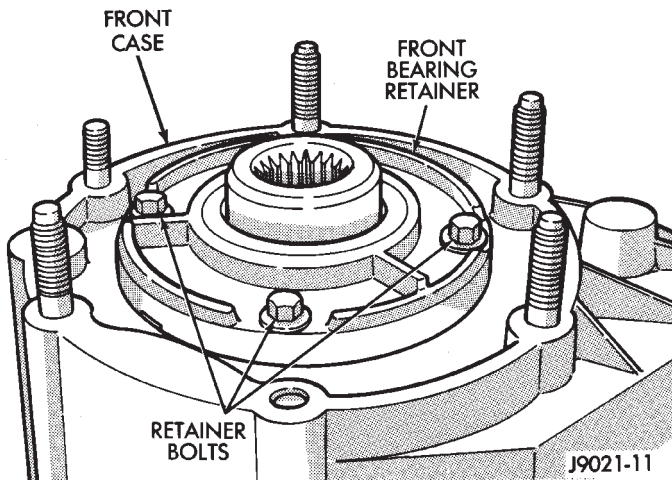

Fig. 22 Front Bearing Retainer Bolt Locations
(34) Turn front case over and remove front bearing retainer bolts (Fig. 22).
- (20) Install front bearing retainer on front case (Fig. 22). Tighten retainer bolts to 21 N•m (16 ft. lbs.) torque.